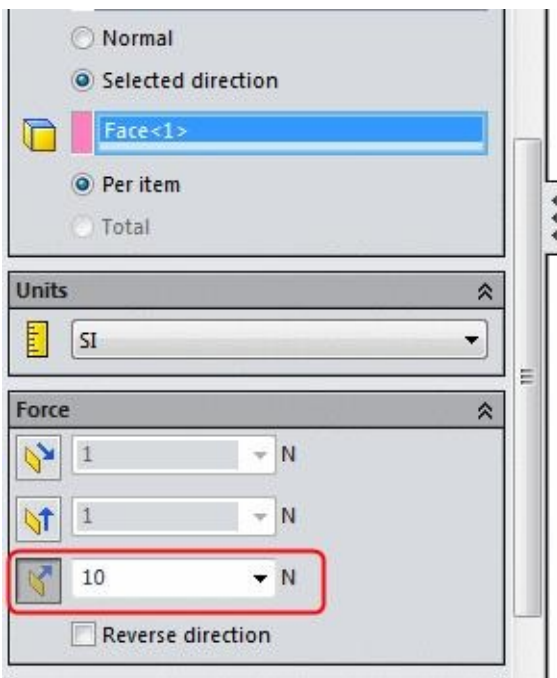

Figure-11. Button to be selected from Force rollout
- Now, click on the third button i.e. **Normal to Plane** and specify the force value as **10 N**; refer to Figure-11.